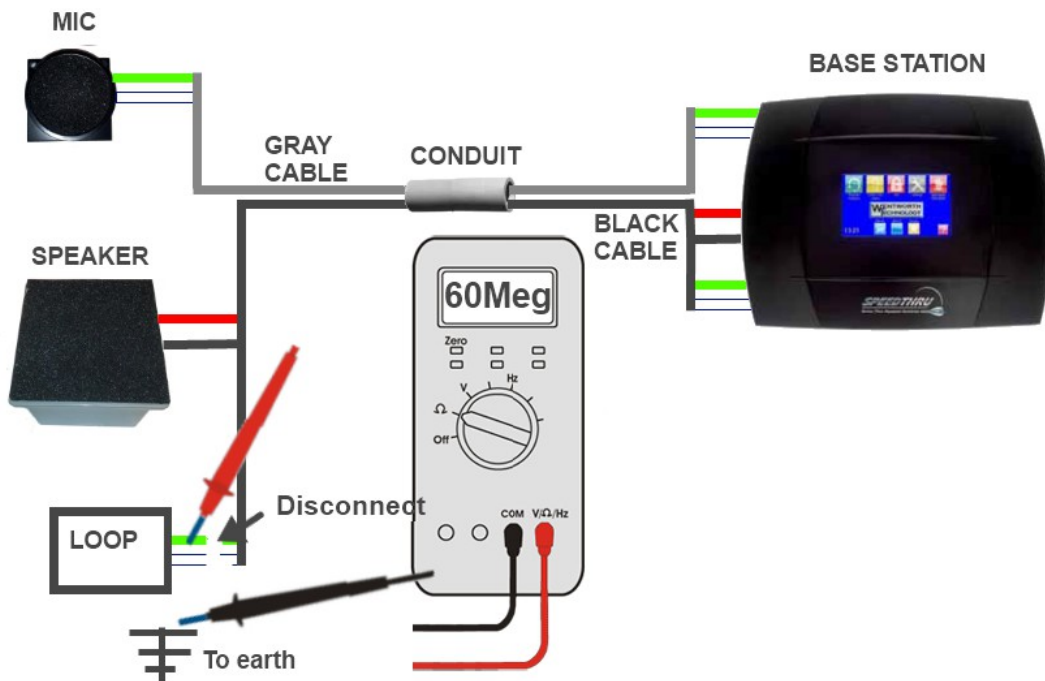

Figure 7: Testing an inground loop for a short to ground
3. Connect one lead of the Ohm meter on one of the loop wires, and the other to (earth) ground as shown in Figure 7. If the resistance is less than 50 Megaohms then it's likely the loop wires are damaged/shorted to ground and should be replaced.